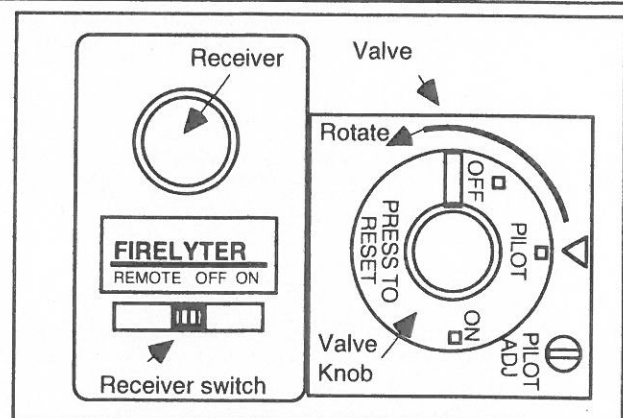

Figure 15
1. Slightly push Valve Knob. Turn clockwise to "OFF". Turn Slide receiver switch to "OFF". **Figure 15.**
3. Slightly push Valve Knob and turn counter clockwise to "PILOT". **Figure 15.**
5. Turn Valve Knob Counterclockwise to "ON". Hold button on transmitter for two to five seconds. **Figure 15.**
7. For complete shutdown, slightly push Valve Knob and turn clockwise to "OFF". **Figure 15.**
2. **(COMPLETE SHUTDOWN)** Slide receiver switch to "OFF" and slightly push and turn blue Valve knob and to "OFF". **Figure 15.**